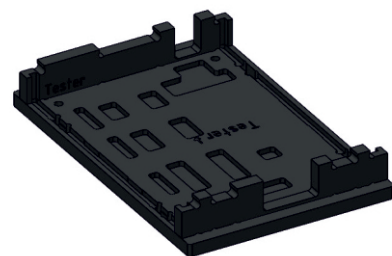

Fig. 82: Mounting side walls
1) Mount two side walls on the bottom base plate (marked as “Tester ↓”). To do that, align side wall protrusions with holes in the base plate and latch them (Fig. 82):